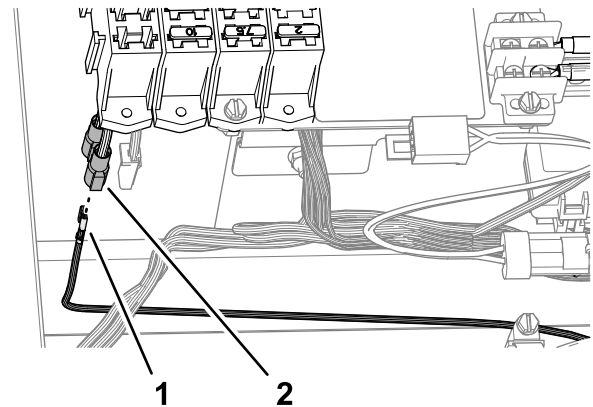

Figure 20
3. Plug the insulated spade connector labeled OPTIONS POWER of the fuse block into the spade terminal labeled HORN POWER of the kit wire harness (Figure 20).